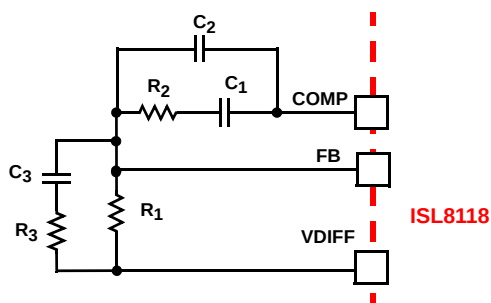
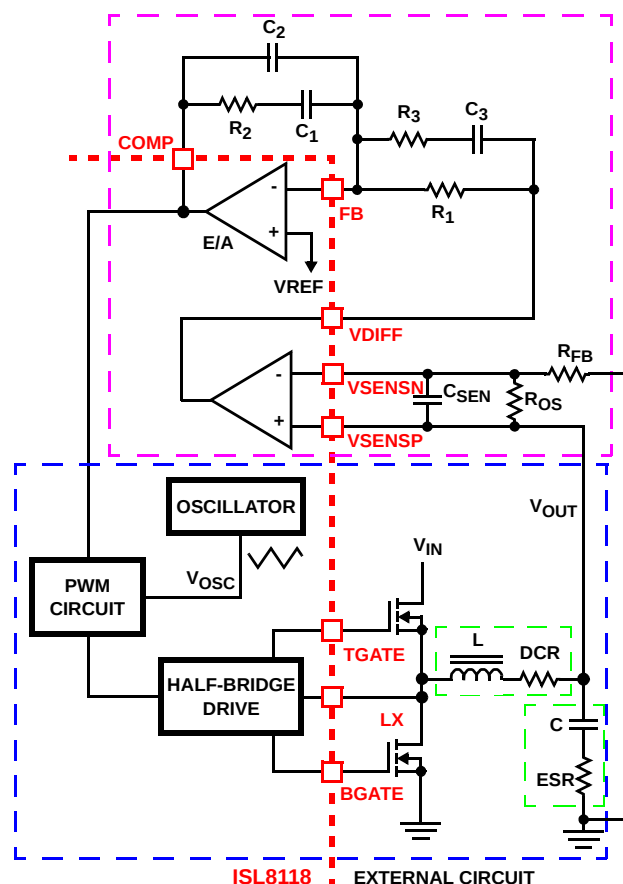

FIGURE 9. COMPENSATION CONFIGURATION FOR ISL8118 WHEN USING DIFFERENTIAL REMOTE SENSE
FIGURE 10. VOLTAGE-MODE BUCK CONVERTER COMPENSATION DESIGN
The ISL8118 single-phase converter is a voltage-mode controller. This section highlights the design considerations for a voltage-mode controller requiring external compensation. To address a broad range of applications, a type-3 feedback network is recommended (see Figure 9).
Figure 10 highlights the voltage-mode control loop for a synchronous-rectified buck converter, when using an internal differential remote sense amplifier. The output voltage (V_{OUT}) is regulated to the reference voltage, VREF, level. The error amplifier output (COMP pin voltage) is compared with the oscillator (OSC) triangle wave to provide a pulse-width modulated wave with an amplitude of V_{IN} at the LX node. The PWM wave is smoothed by the output filter (L and C). The output filter capacitor bank's equivalent series resistance is represented by the series resistor ESR.
The compensation network consists of the error amplifier (internal to the ISL8118) and the external R₁-R₃, C₁-C₃ components. The goal of the compensation network is to provide a closed loop transfer function with high 0dB crossing frequency (F₀; typically 0.1 to 0.3 of F_{SW}) and adequate phase margin (better than 45°). Phase margin is the difference between the closed loop phase at F_{0dB} and 180°. The equations that follow relate the compensation network's poles, zeros and gain to the components (R₁, R₂, R₃, C₁, C₂, and C₃) in Figures 9 and 10. Use the following guidelines for locating the poles and zeros of the compensation network:
1. Select a value for R₁ (1kΩ to 10kΩ, typically). Calculate value for R₂ for desired converter bandwidth (F₀). If setting the output voltage to be equal to the reference set voltage as shown in Figure 9, the design procedure can be followed as presented. However, when setting the output voltage via a resistor divider placed at the input of the differential amplifier (as shown in Figure 10), in order to compensate for the attenuation introduced by the resistor divider, the below obtained R₂ value needs be multiplied by a factor of (R_{OS} + R_{FB})/R_{OS}. The remainder of the calculations remain unchanged, as long as the compensated R₂ value is used.
A small capacitor, C_{SEN} in Figure 10, can be added to filter out noise, typically C_{SEN} is chosen so the corresponding time constant does not reduce the overall phase margin of the design, typically this is 2x to 10x switching frequency of the regulator. As the ISL8118 supports 100% duty cycle, d_{MAX} equals 1. The ISL8118 also uses feed-forward compensation, as such V_{OSC} is equal to 0.16 multiplied by the voltage at the VFF pin.